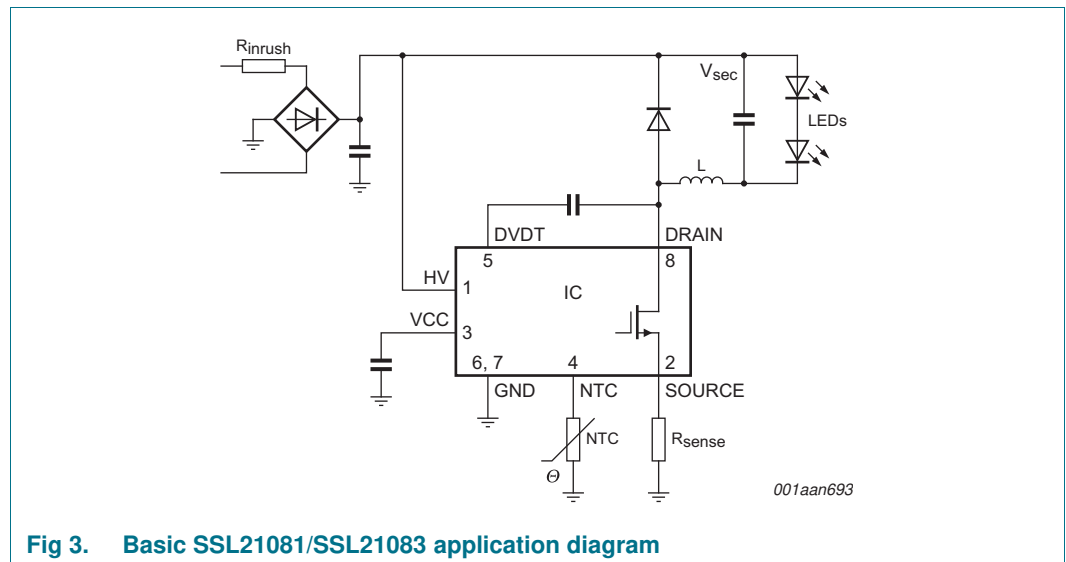
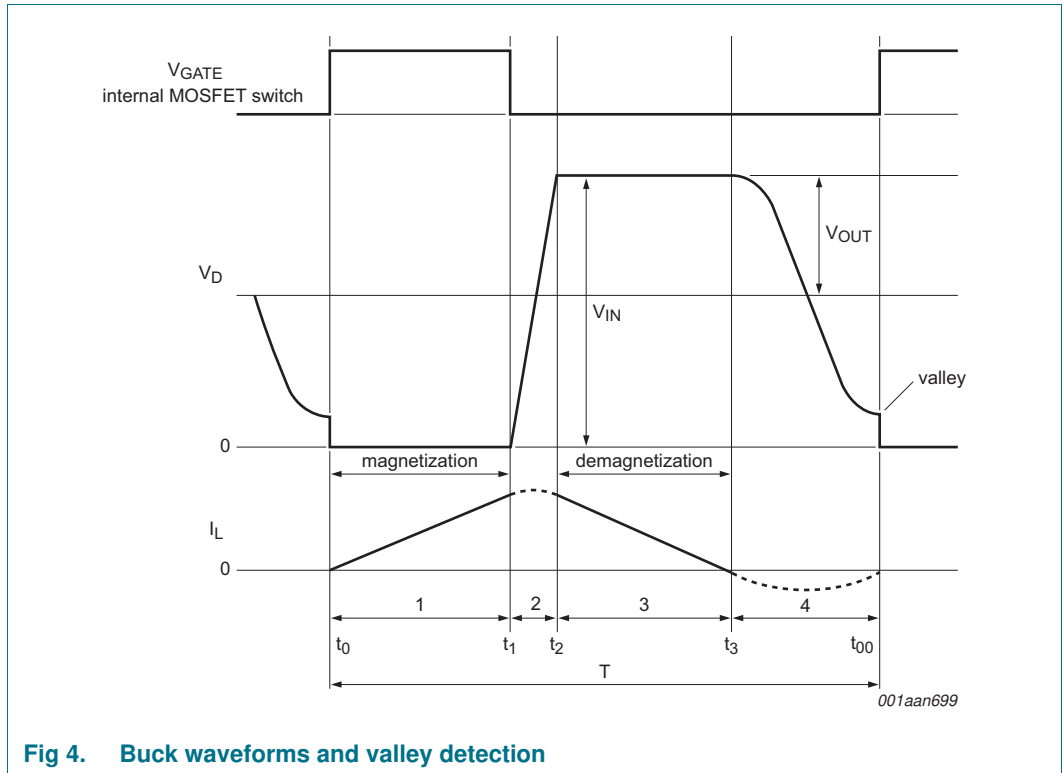

Fig 3. Basic SSL21081/SSL21083 application diagram
Fig 4. Buck waveforms and valley detection
- Low component count (see Figure 3) LED driver solution:
The converter in the SSL21081/SSL21083 is a Boundary Conduction Mode (BCM), peak current controlled system. For the basic application diagram see Figure 3, for the waveforms see Figure 4. This converter type operates at the boundary between continuous and discontinuous mode. Energy is stored in inductor L each period that the switch is on. The inductor current I_L is zero when the internal MOSFET switch is switched on. Thereafter, the amplitude of the current build-up in L is proportional to $V_{IN} - V_{OUT}$ and the time that the internal MOSFET switch is on. When the internal MOSFET switch is switched off, the current continues to flow through the freewheel diode and the output capacitor. The current then falls at a rate proportional to the value of V_{OUT} . The LED current I_{LED} is almost equal to half the peak switch current. A new cycle is started, as soon as the inductor current I_L is zero.
A new cycle is started when the primary switch is switched on (see Figure 4). Following time t_1 , when the peak current is detected on the SOURCE pin, the switch is turned off and the secondary stroke starts (3). When the secondary stroke is complete and the coil current at t_3 equals zero, the drain voltage starts to oscillate around the $V_{IN} - V_{OUT}$ level. The amplitude equals V_{OUT} . A special feature, called valley detection is an integrated part of the SSL21081/SSL21083 circuitry. Dedicated built-in circuitry connected to the DRAIN pin, senses when the voltage on the drain of the switch has reached its lowest value. The next cycle is then started and as a result the capacitive switching losses are reduced.